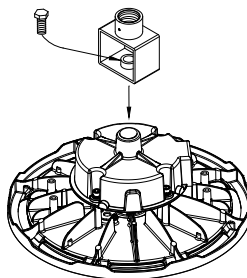

Figure 5
2. Install the adapter (purchased separately) and secure it to the driver using a screw (included with the adapter). (Figure 5)